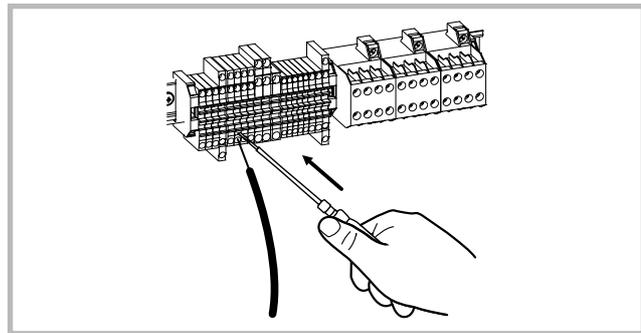

Figure 30 - Hydraulic module terminal block
• Connecting to spring terminals (fig. 30)